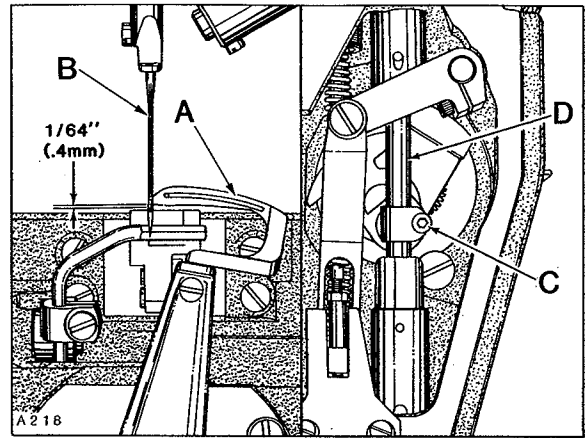

Fig. 12
Turn handwheel in operating direction until POINT of looper (A, Fig. 12) is even with the LEFT side of needle (B). TOP of needle eye should be 1/64 inch (.4mm) below the under surface of looper blade, as shown in Figure 12. Adjustment can be made by loosening screw (C) and move needle bar (D) up or down as required.